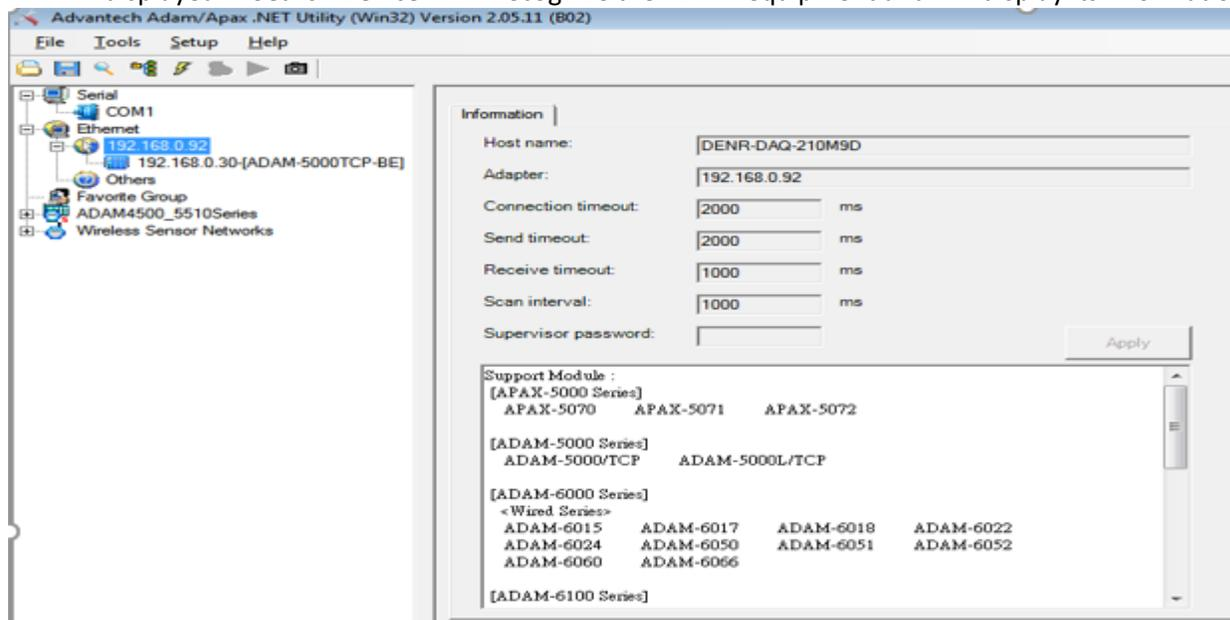

Figure 4 - ADAM/Apax.Net Utility <Search Device> Example
11. Click < **Tools** > on the menu bar, and the click < **Search Device** >. The box below, in Figure 4, will be displayed. < **Search Device** > will recognize the ADAM equipment and will display its information.